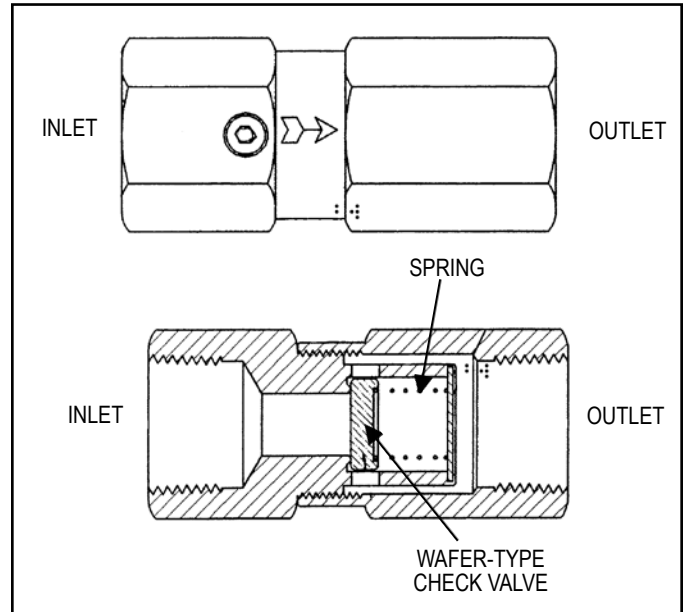

FIGURE 2 - SC-3™ SINGLE CHECK VALVE: WAFER-TYPE (EXTERIOR AND CROSS-SECTIONAL VIEWS)
1. The wafer-style type (Figure 2).